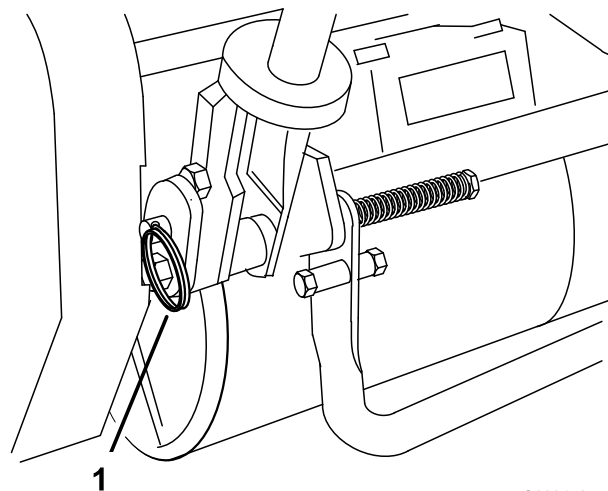

Figure 8
- Remove hairpin cotters from ring pins on each side of mower (Figure 8).
- While supporting handle, remove ring pins from each side and raise or lower handle to desired operating position (Figure 8).